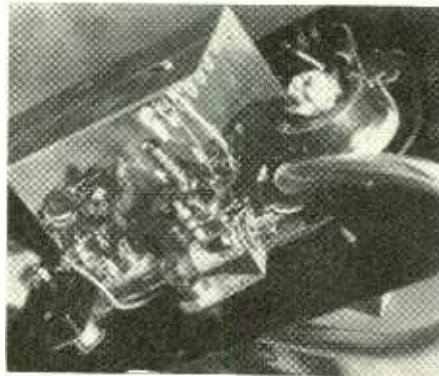

Fig. 22: Switch tuner of unbalanced unit
0.5 to 100 MC, 120 to 160 MC, 174 to 216 MC, and 210 to 250 MC. The first and third positions include the broadcast television and FM frequencies, the second and fourth positions include the higher frequency amateur bands. The number of turns for each coil (for configuration shown in Fig. 22) is given in Table III.